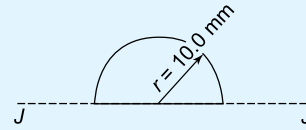

Figure 9.22
4. For the semicircle shown in Figure 9.22, find the second moment of area and radius of gyration about axis JJ .